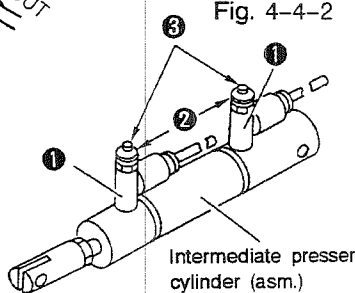
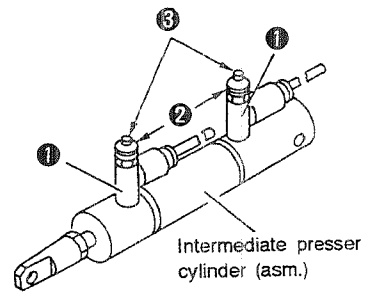

Fig. 4-4-6 (S type)
Fig. 4-4-7 (H type and G type)
- 7) The needle knob of the speed controller (B) (for the intermediate presser cylinder) is fixed using a nut with loosened by 5 turns after it has been fully tightened. (Fig. 4-4-6 and Fig. 4-4-7)
Adjust needle knob ② of speed controller (B) ① properly. After the adjustment, fix it using nut ③. (Fig. 4-4-6 and Fig. 4-4-7)